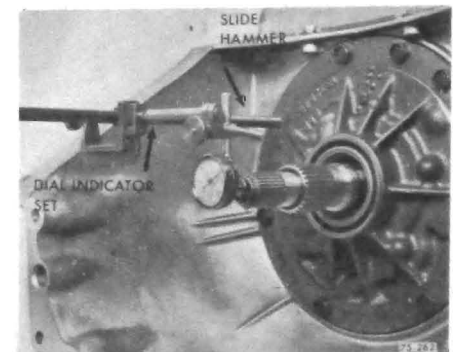

Figure 75-264A
3. Attach slide hammer bolt to threaded hole in oil pump. See Figure 75-264A. With flat of hand on end of input shaft move shaft rearward. Install Dial Indicator Set J-8001 on rod and "O" dial indicator on end of input shaft. Push on end of output shaft to move shaft forward, the reading obtained will be the clearance. There are three selective thrust washers available, .074"-.099", .099"-.116", and .116"-.142".